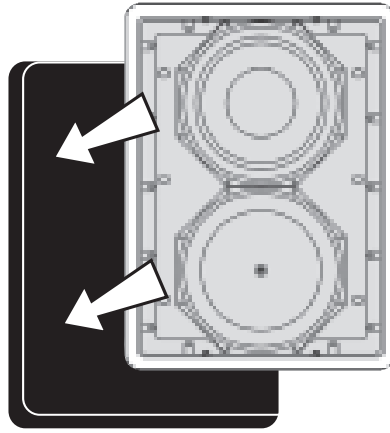
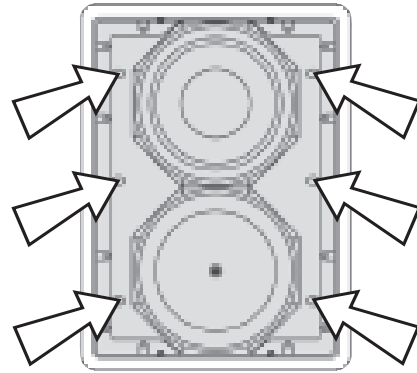

Figure 5
Figure 6
7. Place the subwoofer carefully into the hole [Figure 5]. Secure the sub enclosure using the 6 screws provided. These screws go into the holes in the front of the enclosure and angle back into the studs (or, if the space between your studs was wider than 14½"–15½", into the shims). [Figure 6] Tighten all the screws on one side before installing and tightening the screws on the other side.